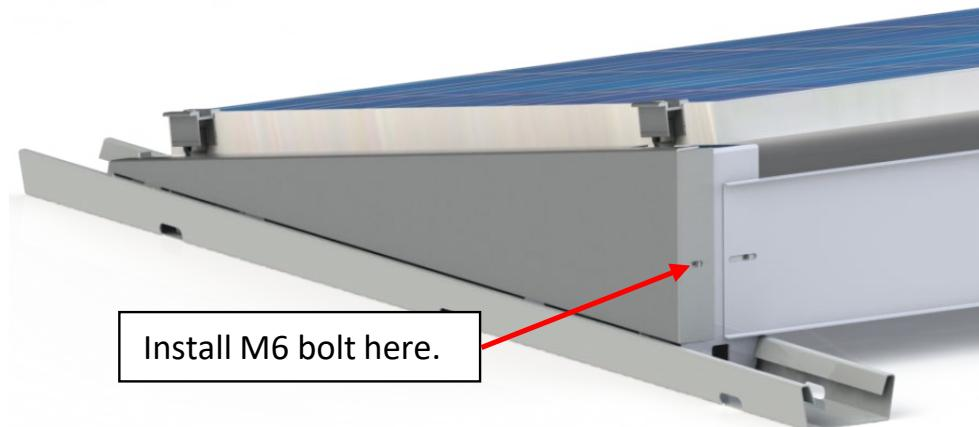

Figure 31 – Side Shield aligned with outer press-fit nut
- 6 Continue installing adjacent PV modules. To ensure proper clamping, pull panels firmly together while installing (see examples, Figure 30 and Figure 31).